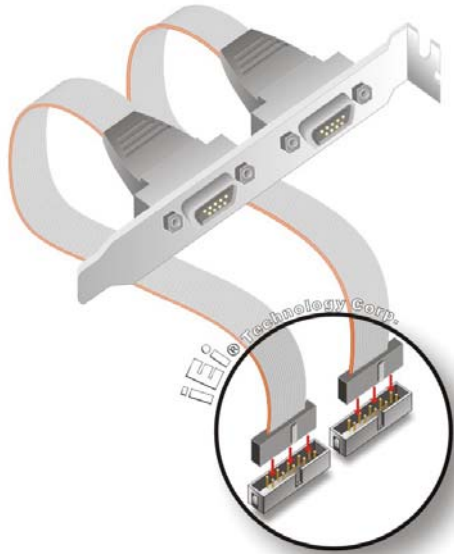

Figure 5-10: Dual RS-232 Cable Installation
Step 2: **Insert the cable connector.** Insert the connectors into the serial port box headers. See Figure 5-10. A key on the front of the cable connectors ensures the connectors can only be installed in one direction.